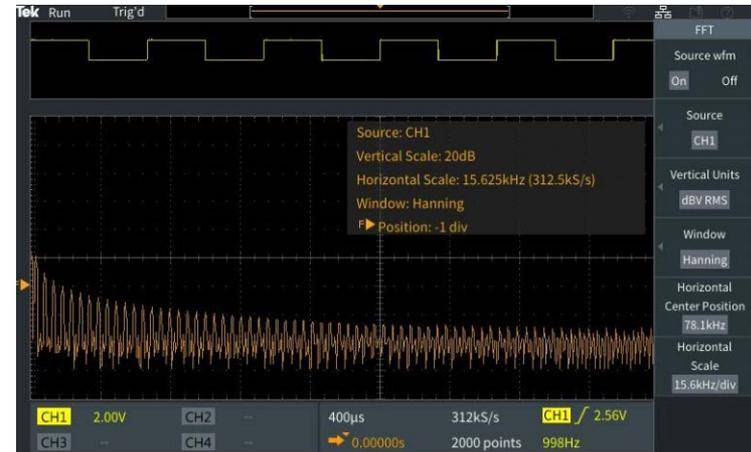

Figure 14. The FFT Menu
3. Press the **F** button for FFT function on the front panel (Figure 14).